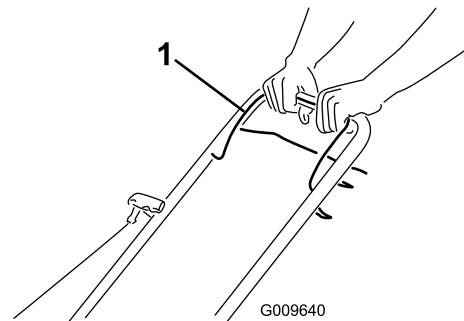

Figure 9
1. Hold the blade control bar (Figure 9) against the handle.